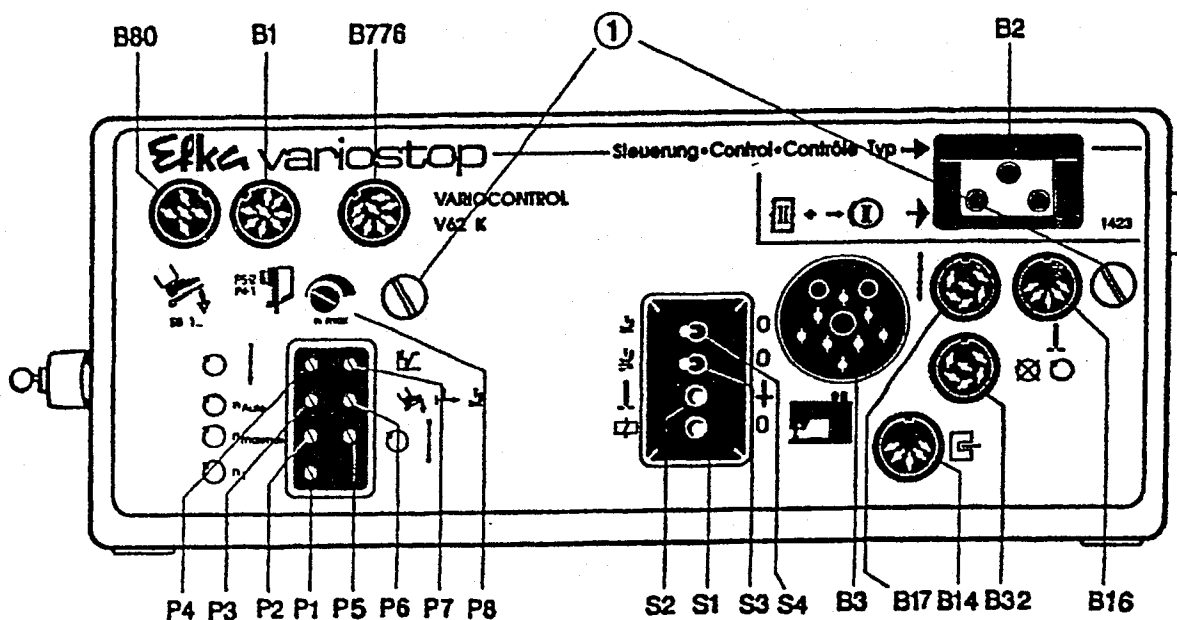

Fig. 1:
Adjustments from outside: (see fig. 1)
- Loosen the screws on the control (see page 6 fig. 1 reference number (1)).
- Tighten the screws (see page 6 fig. 1 reference number (1)).